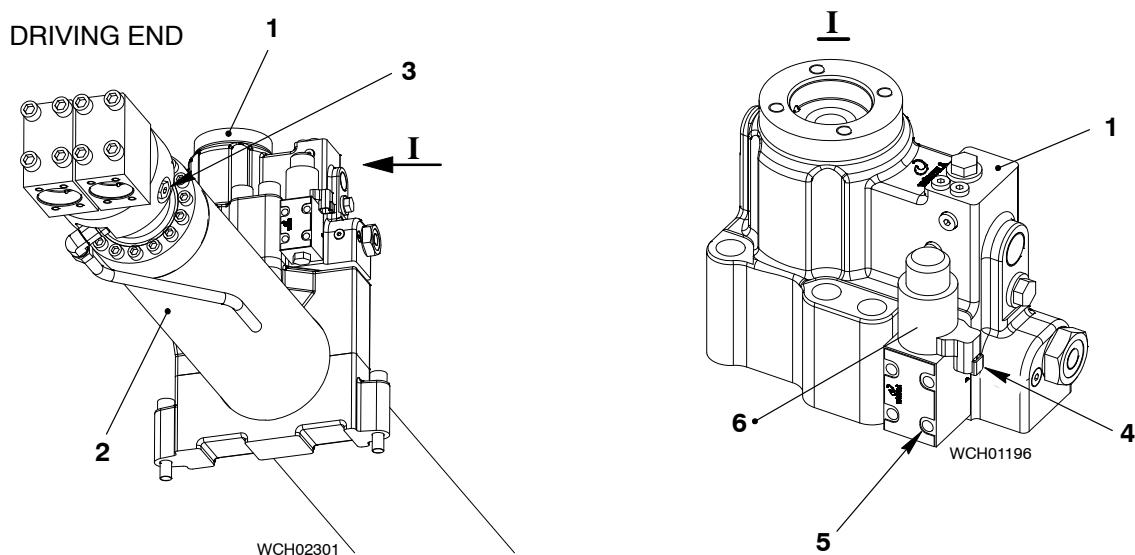

Fig. 1: Servo Oil Rail and VCU
- 7) In the new 4/2-way valve (6, Fig. 1), make sure that the correct new O-rings are installed.
- 8) Make sure that the mating surfaces of the 4/2-way valve (6) and the VCU (1) are clean.
- 9) Make sure that the small M6 orifice is installed in one of the four ports (P-port) in the VCU (1).
- 10) Put the 4/2-way valve (6) in position. Make sure that the bores are correctly aligned.
- 11) Tighten the four screws (5).
- 12) Close the screw plug (3).